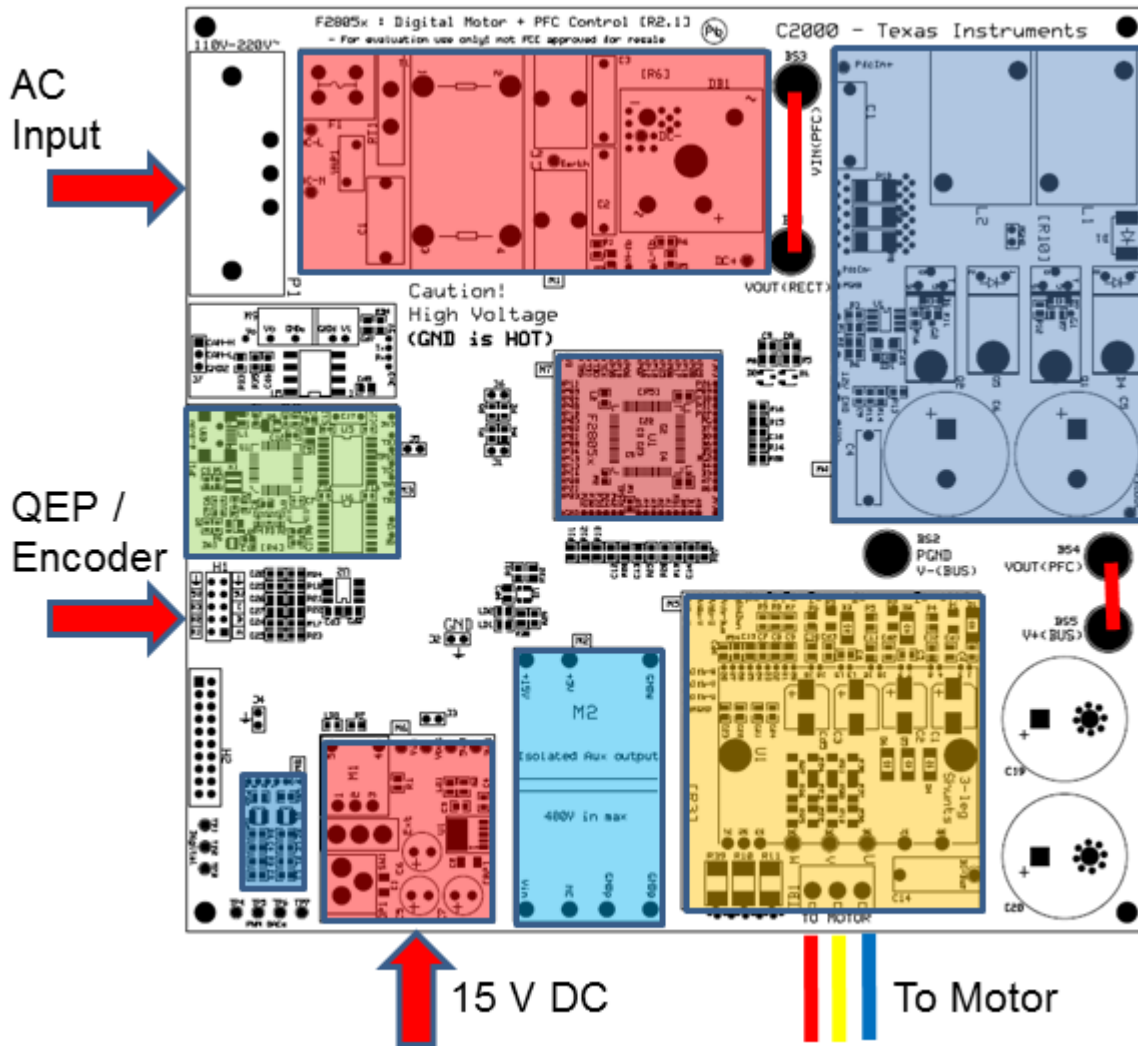

Figure 4. Using AC Input and PFC to Generate DC Bus Voltage for Inverter
**NOTE:** If variable AC supply is unavailable, connect the other end of the cord to a variac connected to AC mains through an isolation transformer. See Figure 4.
- (f) Connect the variac to the wall supply through an isolator. (See Figure 4.)